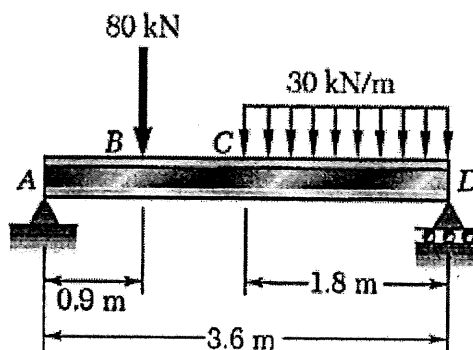

Figure 4
b) The structure in Figure 4 consists of a simply supported beam with loaded as shown. Knowing that the allowable normal stress for the grade of steel to be used is 160 Mpa.